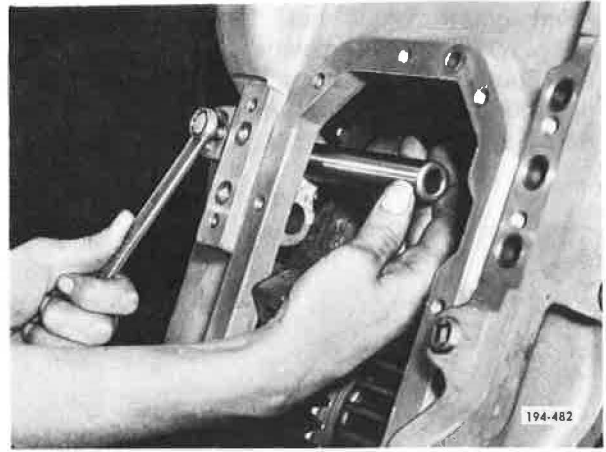

Figure 5-625. Installing Shifter Rail Capscrew
13. Install Direct and Lo-range shifter rail. Install shifter rail retaining capscrew. See Figure 5-625.